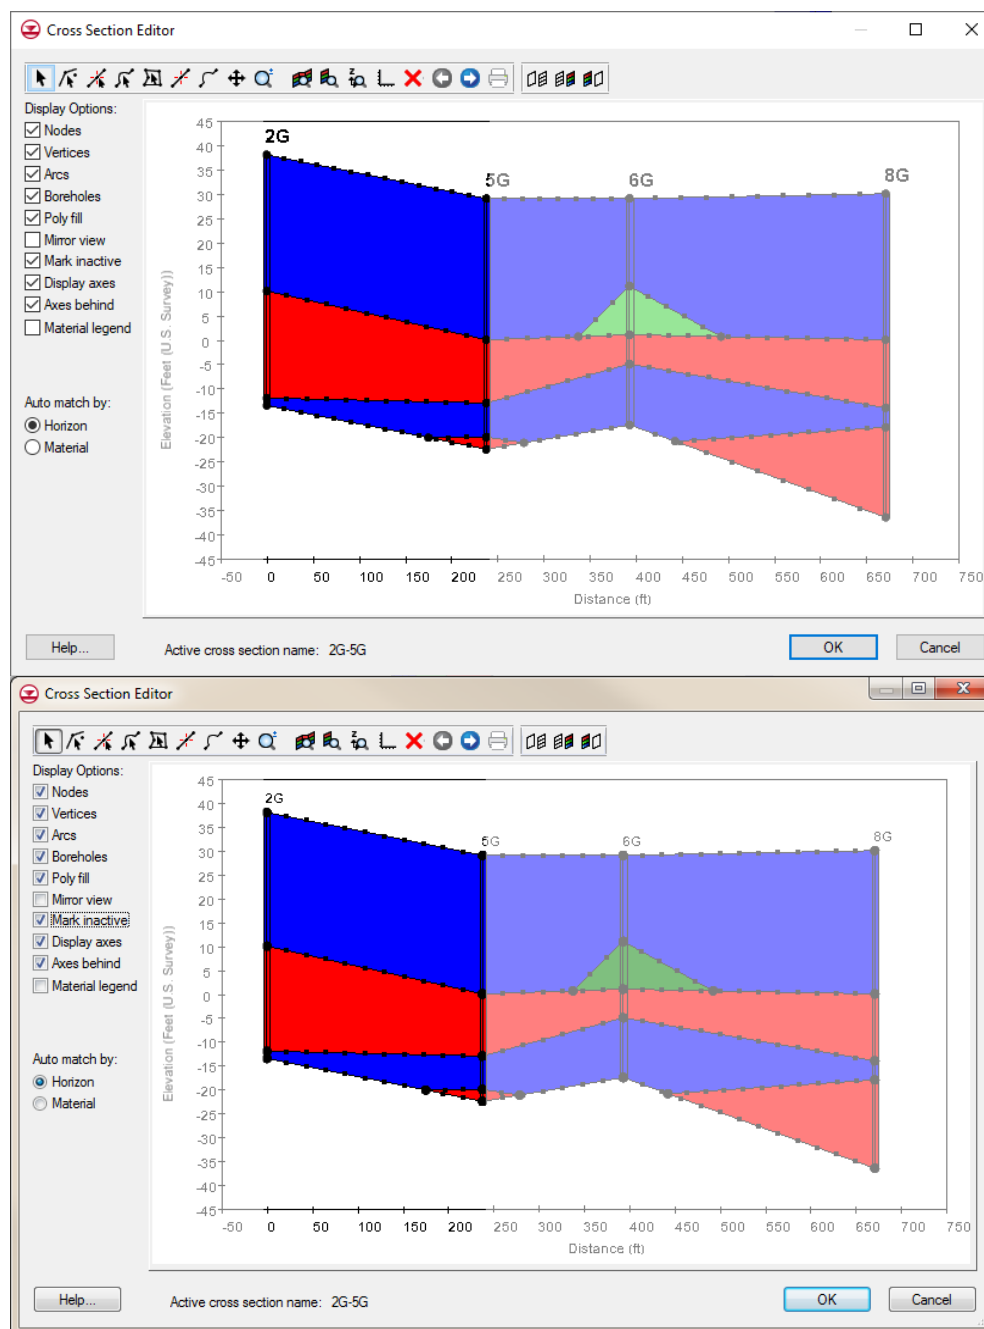

Figure 8 Cross Section Editor dialog
2. Select *Boreholes* | **Cross Section Editor...** to bring up the *Cross Section Editor* dialog (Figure 8).